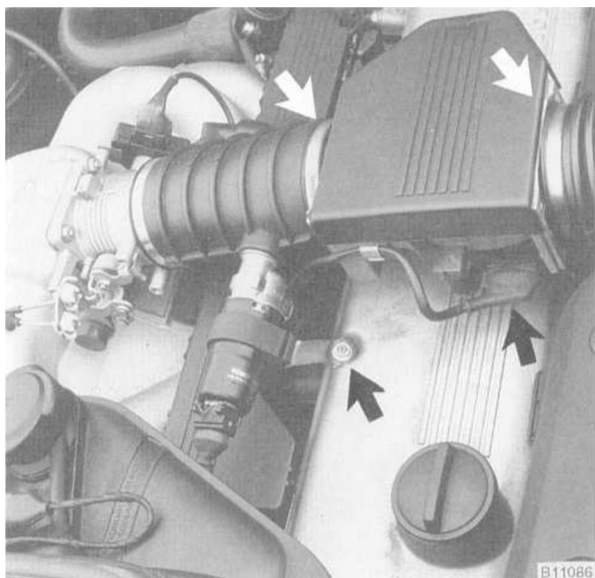

Fig. 4. Idle air stabilizer valve and bracket, air flow sensor connector, and hose clamps to be removed/disconnected (arrows),
1. Loosen the hose clamps for the intake air ducts. Disconnect the harness connector from the air flow sensor. Remove the idle air stabilizer bracket mounting nut and pull the valve out of the intake air boot. See Fig. 4.